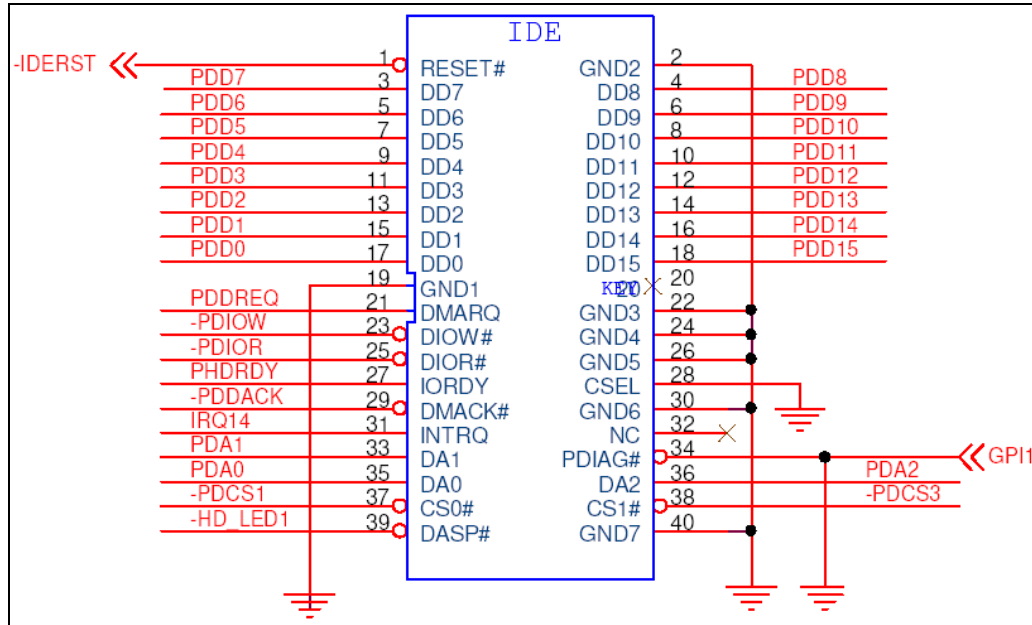

Figure 4-12: IDE Device Connector Locations
- CN Location:** See **Figure 4-12**